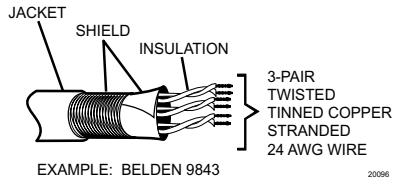

**Figure A4-6.** Remote Wiring a CM9760-KBD
3. It handles relatively high data rates. There is a trade off between data rate and cable length (theoretically, up to 4,000 feet [1,220 m] @ 100Kbps) (see Figure A4-6).
For remote installation of the keyboard, the user must supply a cable of appropriate length that supports the TIA/EIA-422-B (RS-422) communication standard. The example in Figure A4-6 shows a keyboard placed 2,000 feet (610 m) from the CC1 via the user-supplied cable. Junction boxes (phone boxes) are used to facilitate the RJ-45-to-cable connection points at either end of the run. Note that only signal wires and ground are run through the cable itself (five of the six available wires are used in the example). The transformer serves to pass on the data signal and to supply power to the keyboard at the keyboard end.